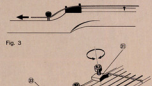

Fig. 3
- Put other end of string under retainer bar (5) and wind onto machine head as in Fig. 3.